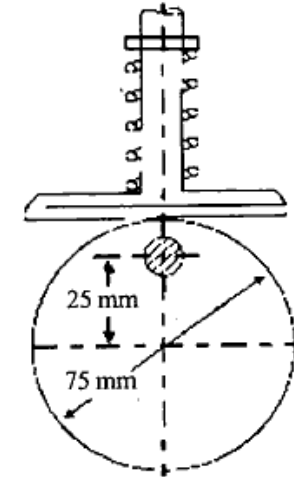

Figure 5
8. A cam consists of a circular disc of diameter 75 mm with its centre displaced 25 mm from the camshaft axis. The follower has a flat surface (horizontal) in contact with the cam and the line of action of the follower is vertical and passes through the shaft axis as shown in Fig.5. The mass of the follower is 2.3 kg and is pressed downwards by a spring which has a stiffness of 3.5 N/mm. In the lowest position the spring force is 45 N.